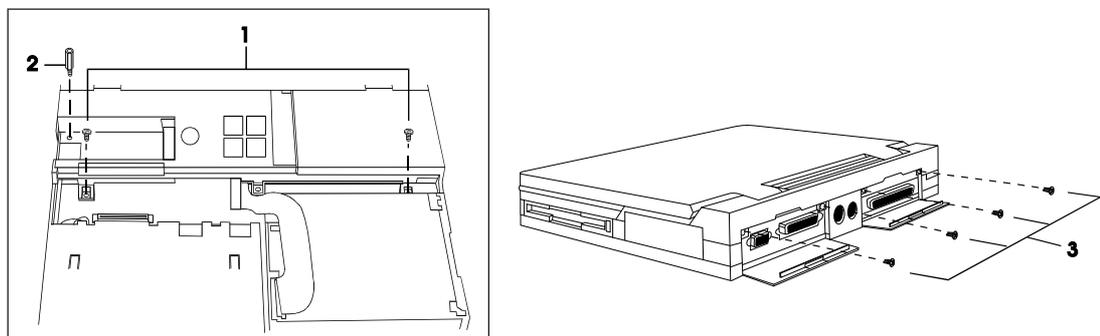

Figure 2-10. LCD/Cover Disassembly/Reassembly
2. Remove the two screws (Figure 2-10 #1) from the LCD/cover feet.
5. Remove the standoff (Figure 2-10 #2) with a nexnut screwdriver.
6. Remove the four screws from the rear panel (Figure 2-10 #3).
3. Replace the standoff (Figure 2-10 #2), fax/modem module (if installed), and controls-and-indicator panel.
3. Replace the two screws (Figure 2-10 #1) at the LCD/cover feet and four screws (Figure 2-10 #3) on the rear panel.